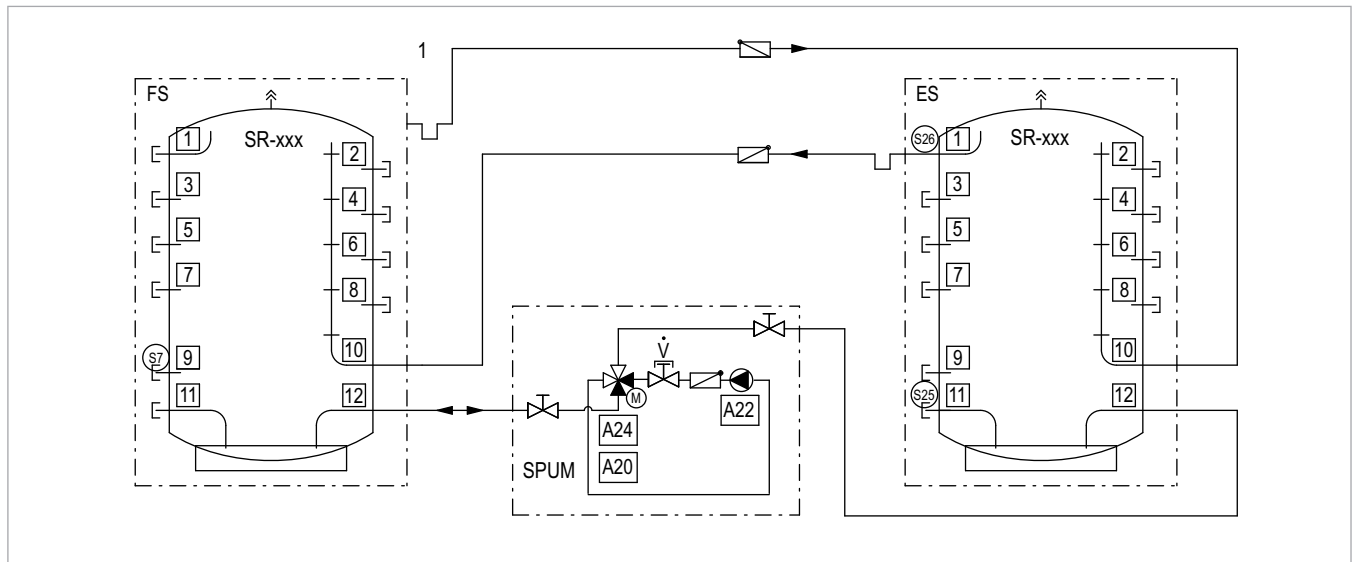

Fig. 8: Scheme of the Storage Tank Transfer Set
The SV-3 storage tank transfer set is used to connect an additional SolvisStrato stratified buffer tank as a following buffer tank (ES) to an existing SolvisStrato as the leading buffer tank (FS) in the SolvisVital 3 system. You can use a motorised four-way switching valve to charge from the leading buffer tank to the following buffer tank, or vice versa. When you install the system, pay attention to the position and installation direction of the non-return valve (RV) (spring-loaded gravity brakes), see → Fig. 8.
1. Connect the pump (6) to the 20 mbar gravity brake (5), the ball valves (4), the adjusting valve (3) and the 4-way mixer (1) as shown. In the process, make the on-site pipe connection (2) between the adjusting valve and the 4-way mixer.
2. Lay pipes from the 4-way mixer and the gravity brakes (7) to the storage tanks according to the system diagram (see → Fig. 8).
1. Apply heat conducting paste to the sensor and insert into the corresponding sensor sleeve (see → Fig. 8).